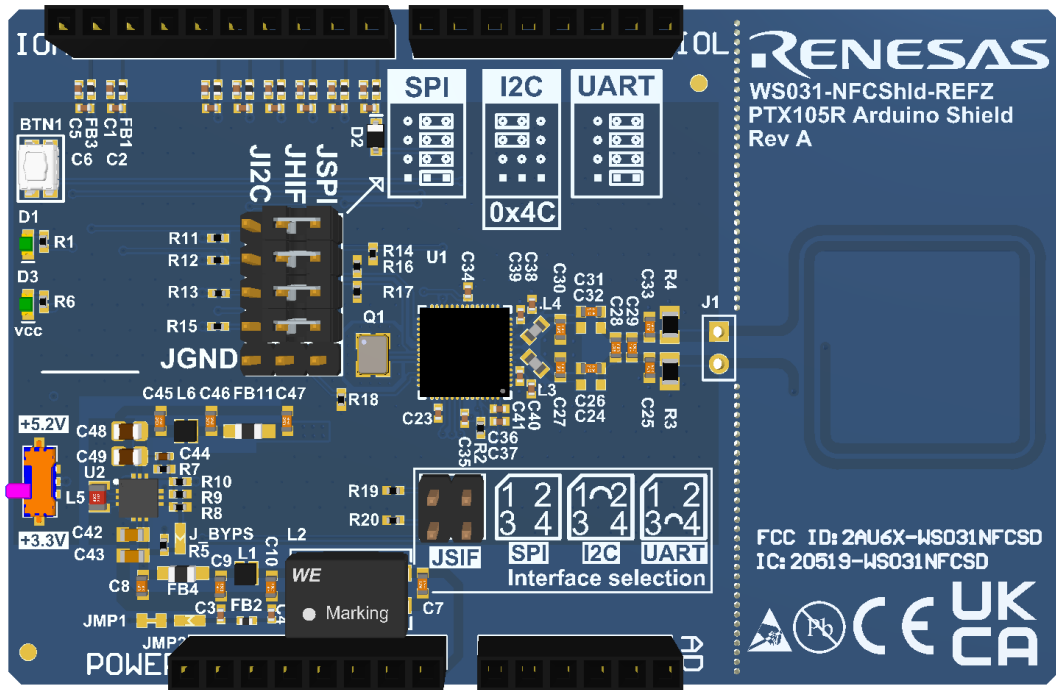

Figure 11. PTX105R Arduino Board – Top View
- Figure 11. PTX105R Arduino Board – Top View9